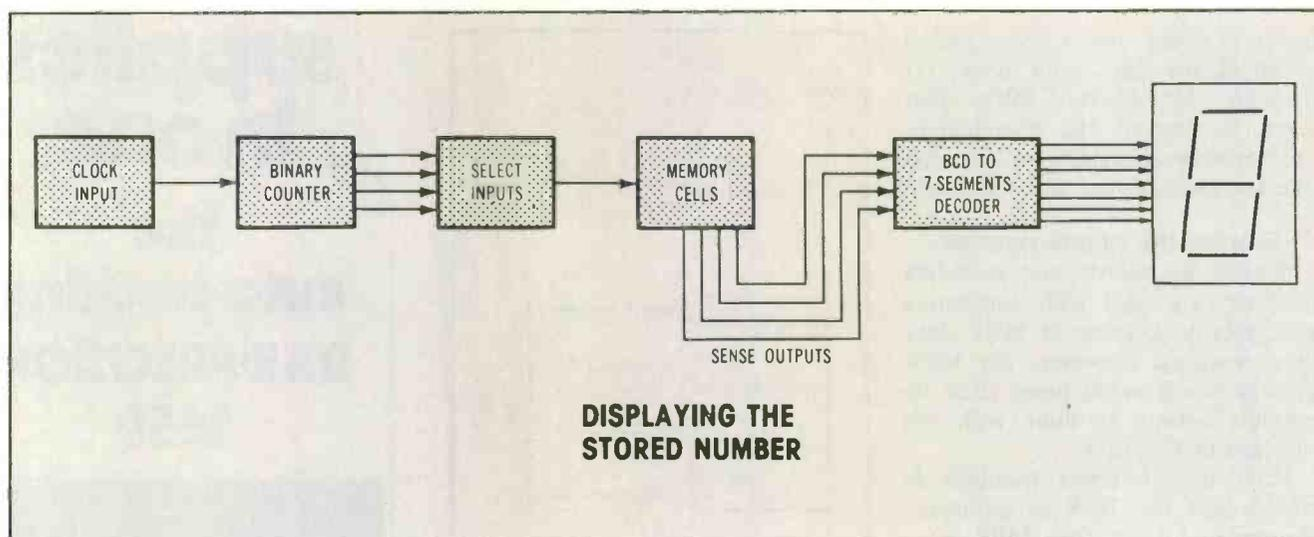

Figure 6 The 7 numbers of the phone number are stored in sequence, and this arrangement of ICs will display those numbers in proper sequence on the LED readout.
Figure 6 A low-pass RC circuit (A) is formed by the resistances of wires, switches and transformers. (Inductive effects of the pole transformers add LC sections which produces much more filtering.) This sequence of waveforms shows changes that occurred to the sharp pulses as the C1 capacitor value was increased in steps. Instead of being *absorbed* by the capacitor, the pulses were *integrated* so the amplitude was decreased without any change of total power. The third waveform shows unmistakable voltage-charging curves on the leading edges and voltage-discharging curves on the trailing edges.
A circuit for displaying in sequence each of the seven phone digits is shown by the block diagram of Figure 6. A binary counter is programmed to count from decimal 0 to 7 (binary 0000 to 0111), and it steps the memory through the first seven rows of cells where the phone numbers are stored. After the seventh count, the counter resets to decimal 0 and counts again up to 7, and so on. The decoder converts the sense outputs to the code required for displaying decimal digits on the readout.